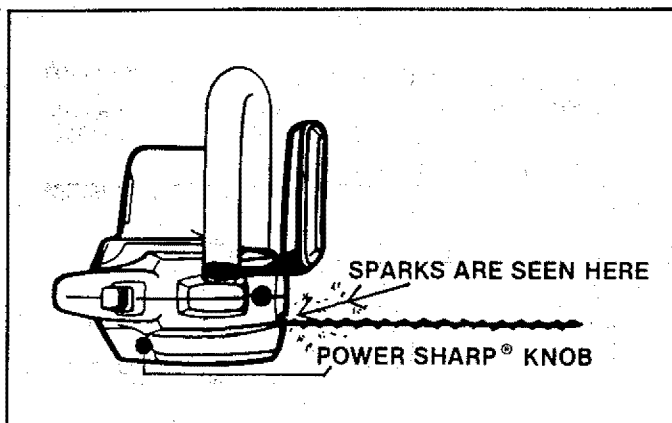

Figure 17
5. Turn the Power Sharp® Knob clockwise, one click at a time, while pushing down on the knob. Figure 17.